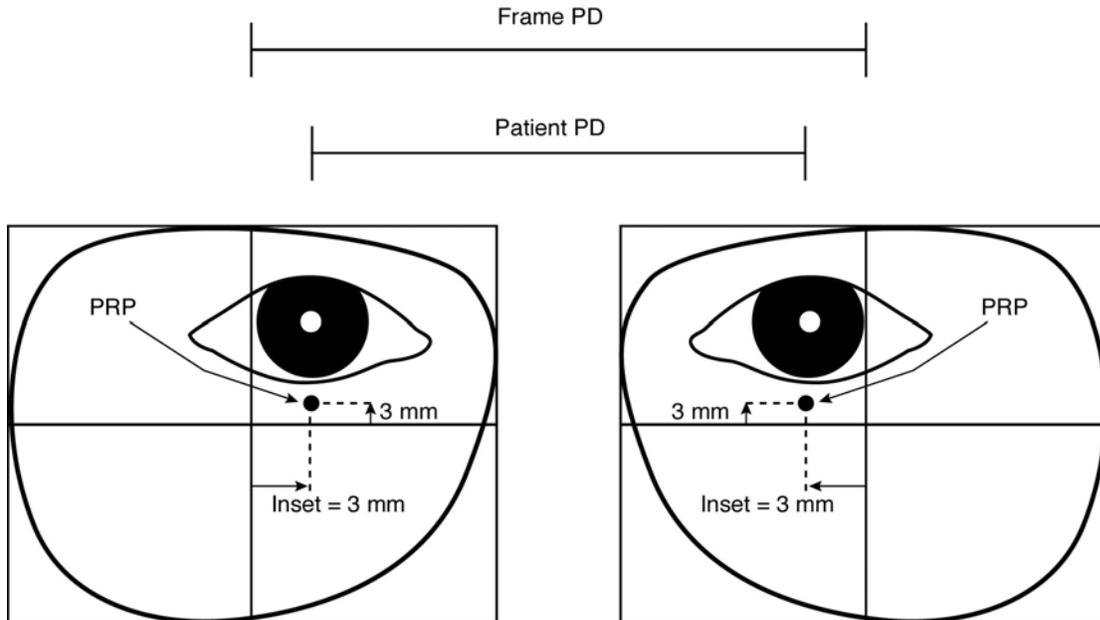

FIGURE 14
1. Most glasses made do not contain prism. The optical centers will then be in specific positions. See Figure 14.